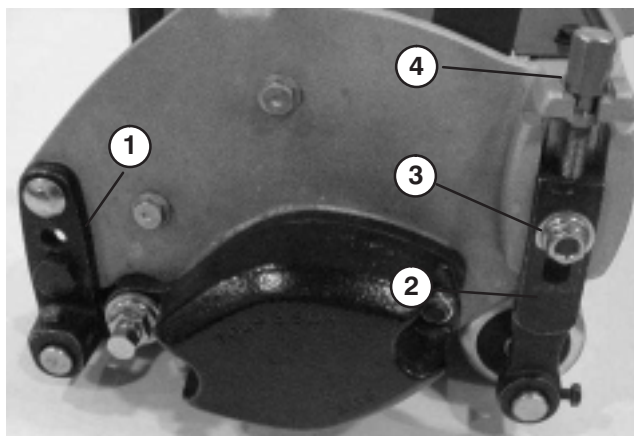

Figure 18
1. Adjust rear roller brackets (Fig. 18) to upper or lower position depending on desired height of cut range.
3. Loosen locknuts securing height-of-cut arms to cutting unit side plates (Fig. 18).